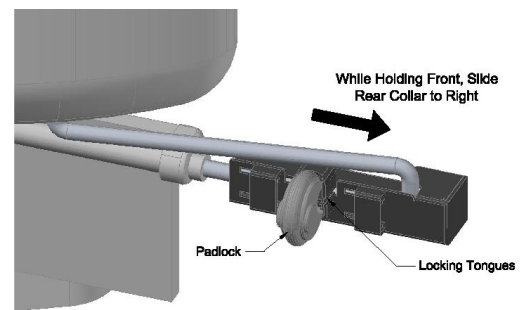

Figure 5 - Front and Rear Collar with Padlock
5. With the rear collar engagement teeth protruding through the front collar and while still holding the front collar, slide the rear collar away from the outboard engine (see Figure 5). This will temporarily lock the front collar with the rear collar and align the front and rear collar locking tongues.